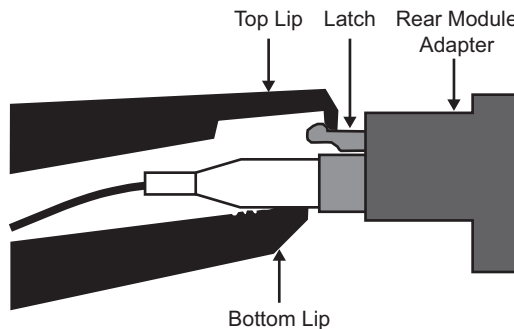

Figure 2.6 Re-positioning the Optic Cable Tool — Single-Latch Connector
6. Re-position the Optic Cable Tool so that top lip sits behind the latch. (**Figure 2.6**)